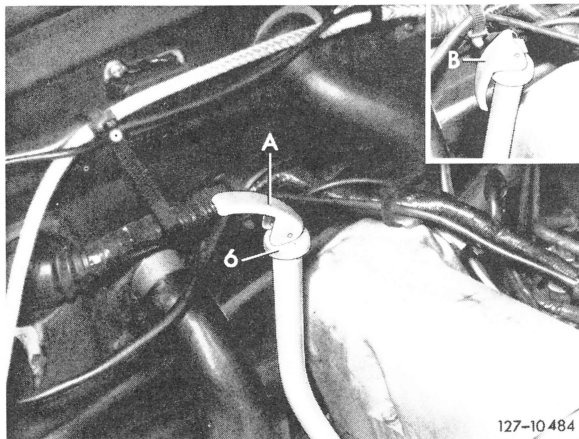

Fig. 1
Measure oil level with the oil dipstick (6) completely, immersed. When using oil dipstick with snap lock, with snap lever opened (A in Fig. 1).
Upon measuring or correction of oil level, insert oil dipstick completely and swivel snap lever downwards (B in Fig. 1).